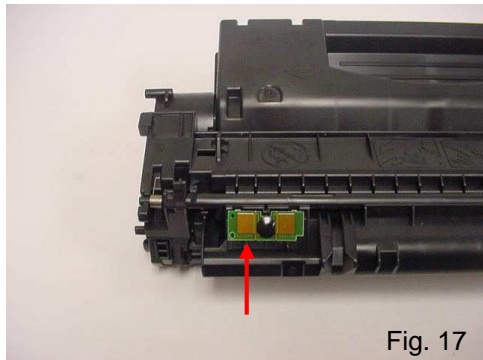

Fig. 17
15. Install the appropriate chip (Fig. 17). The conversion from an HP1320 cartridge to an HP P2015 cartridge is complete.